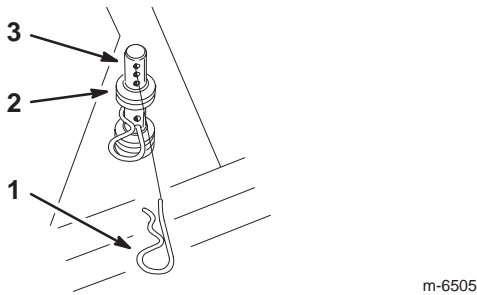

Figure 12
3. On the opposite side of the muffler, install unused spacers onto front and rear height-of-cut pins and insert the hairpin cotter pins (Fig. 12).